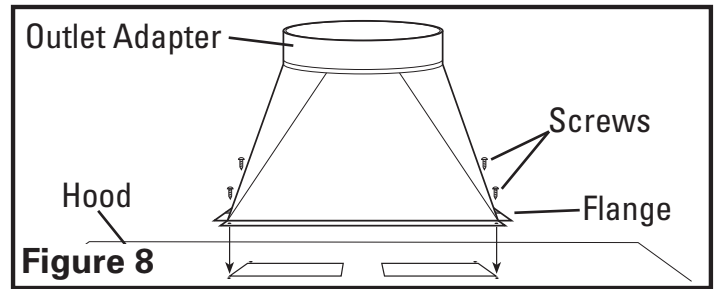

Figure 8
2. Install the proper sized outlet adapter (available separately) to the hood by matching up the four holes on the flange of the adapter to the four corresponding holes on the hood and secure in place with the provided screws. Ensure an airtight seal around the adapter by securing all connections with ducting tape (Figure 8).